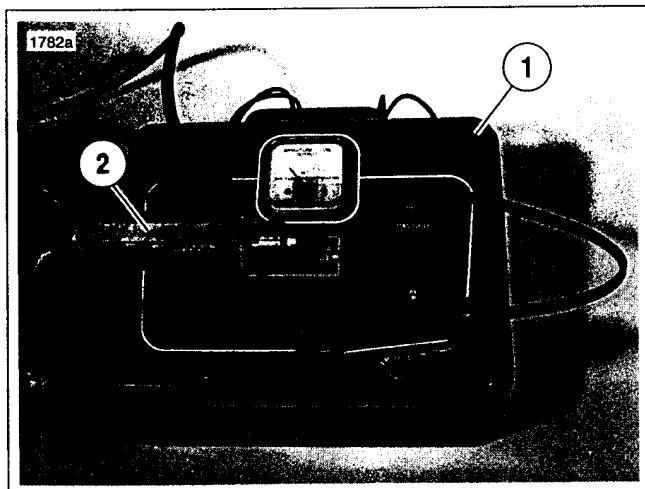

Figure 5-16. Shorted Armature Test Using Growler
10. See Figure 5-16. Check for SHORTED ARMATURE with a growler.
- a. Place armature on growler (1).
- b. Hold a thin steel strip (2) (hacksaw blade) against armature core and slowly turn armature.